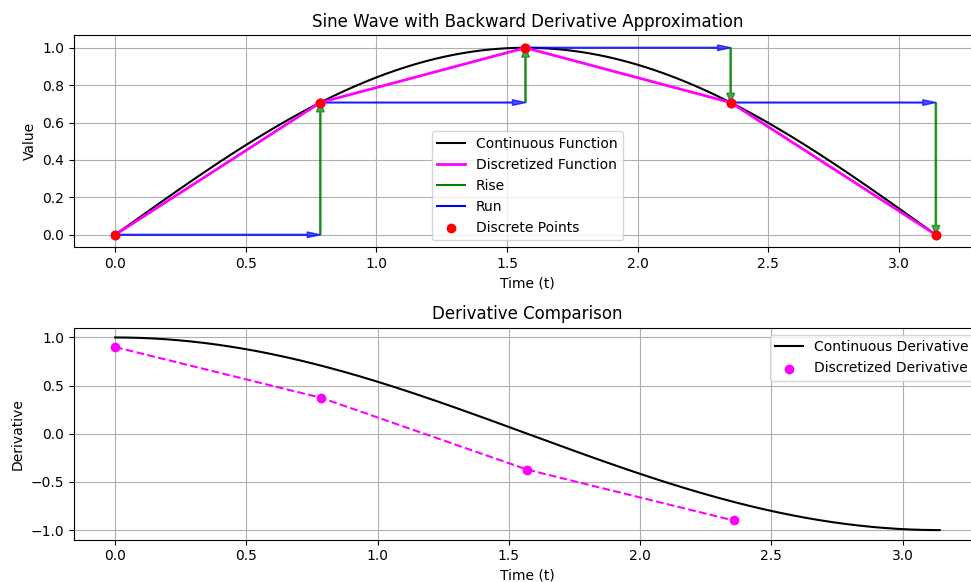

Figure 14: Backward Euler Discretization of the Derivative Term
- The derivative term is the rate of change of the error, and can help reduce overshoot. To approximate this derivative, we use the Backward Euler method, which calculates the derivative (slope) as the difference between the current error and the previous error, divided by the timestep (slope = $\frac{\text{rise}}{\text{run}}$). See Figure 14 for a visual representation of the Backward Euler method.